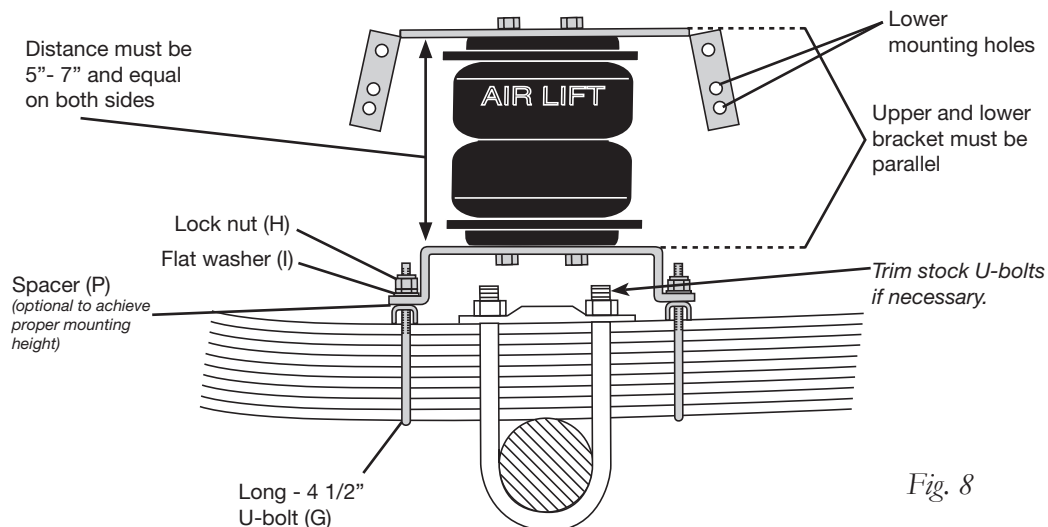

Fig. 8
1. The air spring must be installed between 5" and 7" from both the upper bracket to the lower bracket (Fig. 8). It is best to position the upper bracket as high as possible.
2. Set the air spring assembly on the leaf spring over the axle (Fig. 8).
4. In some cases, it may be necessary to use the optional spacers (P) to achieve the 5"-7" space. For example, if only the top two holes contact above the lower radius edge of the frame rail, it may be necessary to move up the spacers under the lower bracket to achieve mounting height.